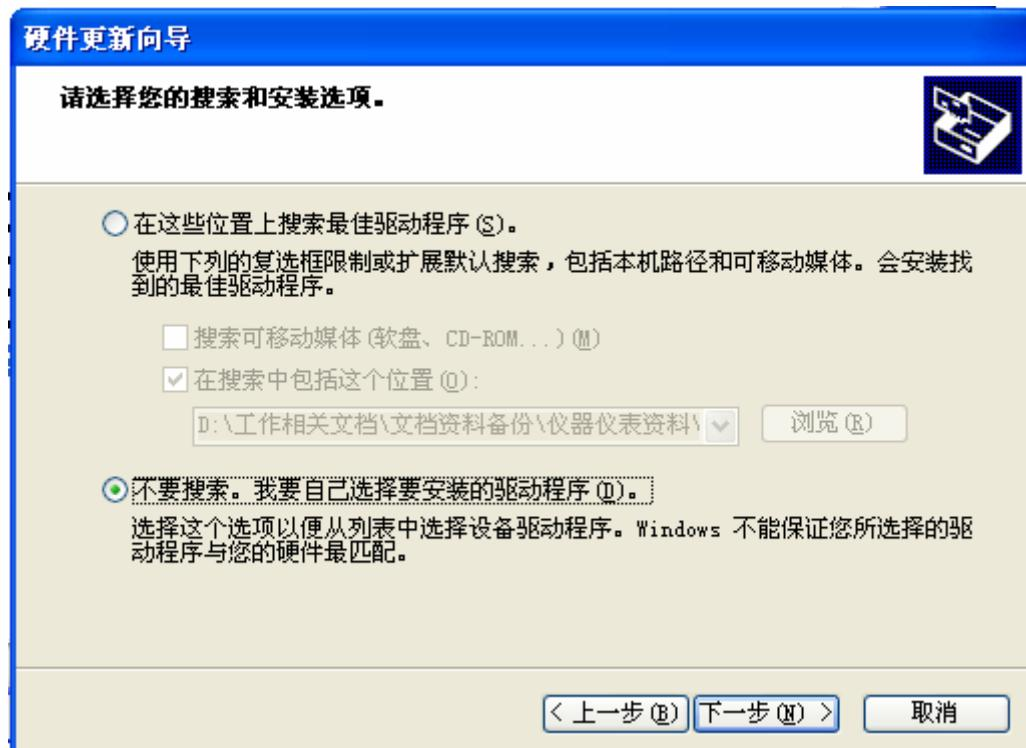

Fig. 5
- c) Select item “Don’t search. I want to install driver by myself (D)”, then press button “Next”, please refer to Fig. 5;